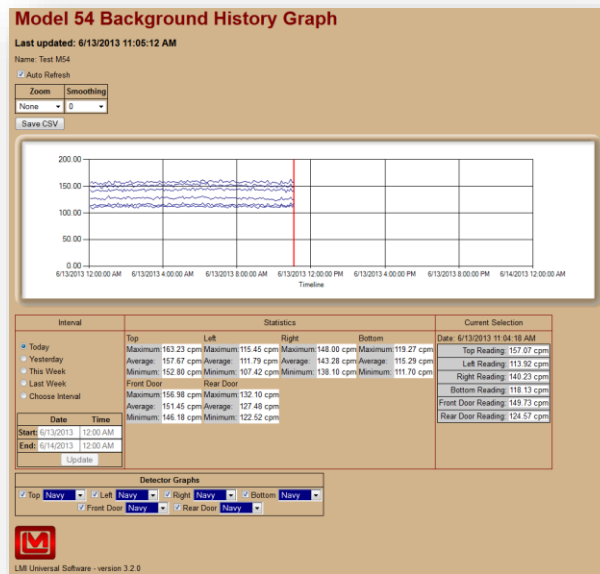

Figure 27 – Graph
- **Background Graph:** Click on this to go to the Device specific Background Graph (see Figure 27).
See Figure 27 for a screen shot of the Graph page.